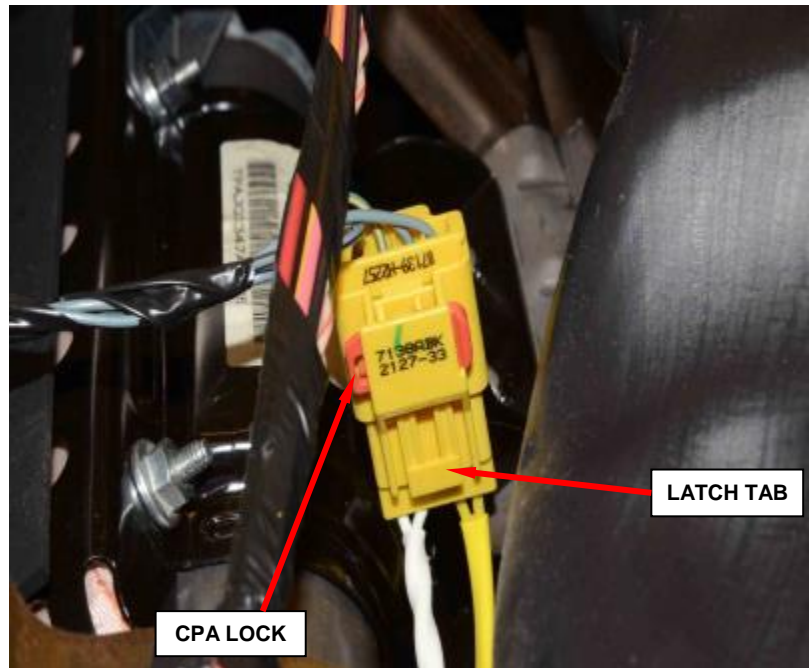

Figure 118 - Airbag Inflator Pigtail Connector
a. Slide the red Connector Position Assurance (CPA) lock on the connector toward the side of the connector (Figure 118).